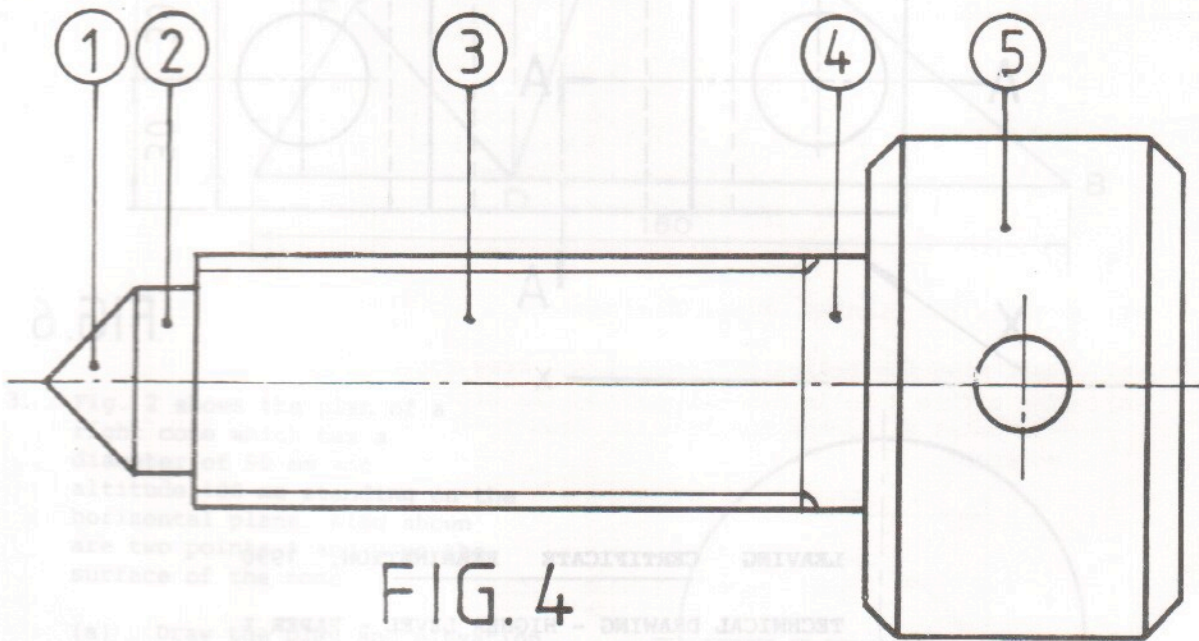

FIG. 4
4. (a) Using the data table below make a fully dimensioned drawing, showing all specifications, of the machine part in Fig. 4.